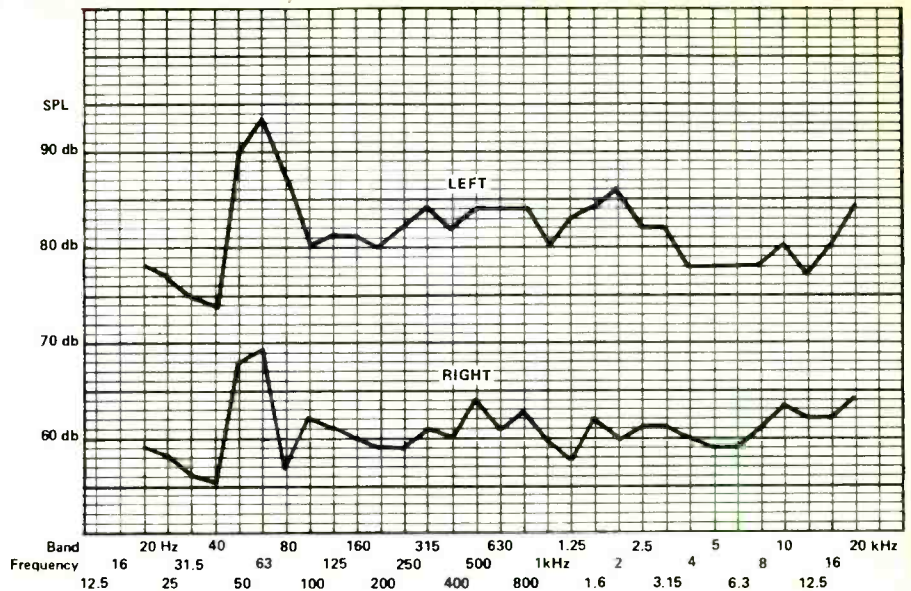

Figure 3A
1) The tweeter control on the monitor speaker was turned up fully; 2) The treble control on the monitor amplifier was boosted; and 3) The bass control on the control amplifier was turned down. The result of these steps is shown in Fig. 3a. As can be seen, there was a more uniform response, but still far from a satisfactory result. However, it was decided that a new mixdown should be made under these conditions. It is important to note that this was the only occasion during the experiment where the listening response was known before the mixdown was actually made.